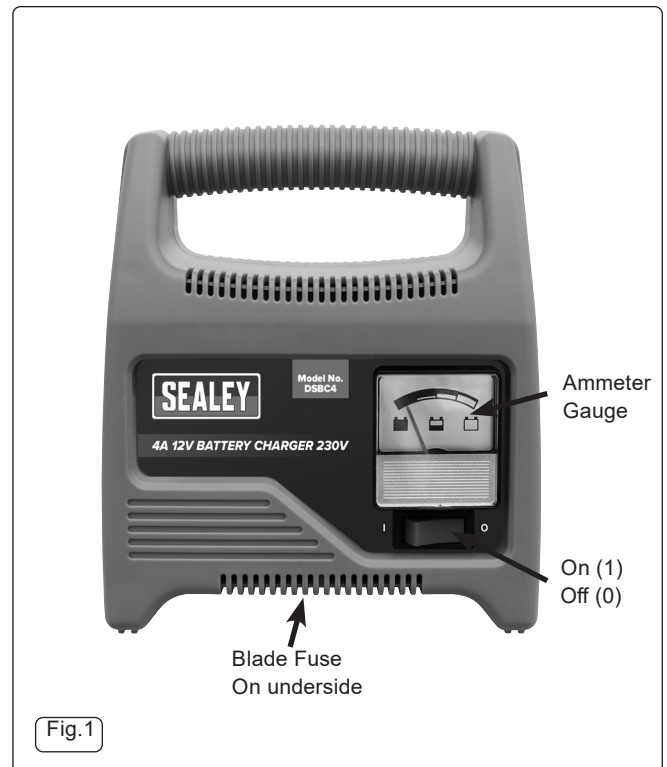

Fig.1
4.4.1. Plug the charger into the power supply and switch on. The ammeter gauge (fig.1) on the front of the charger will indicate state of charging or fault. If the pointer points to the clear battery symbol, the unit will require charging. If it points to the black symbol, it is fully charged.